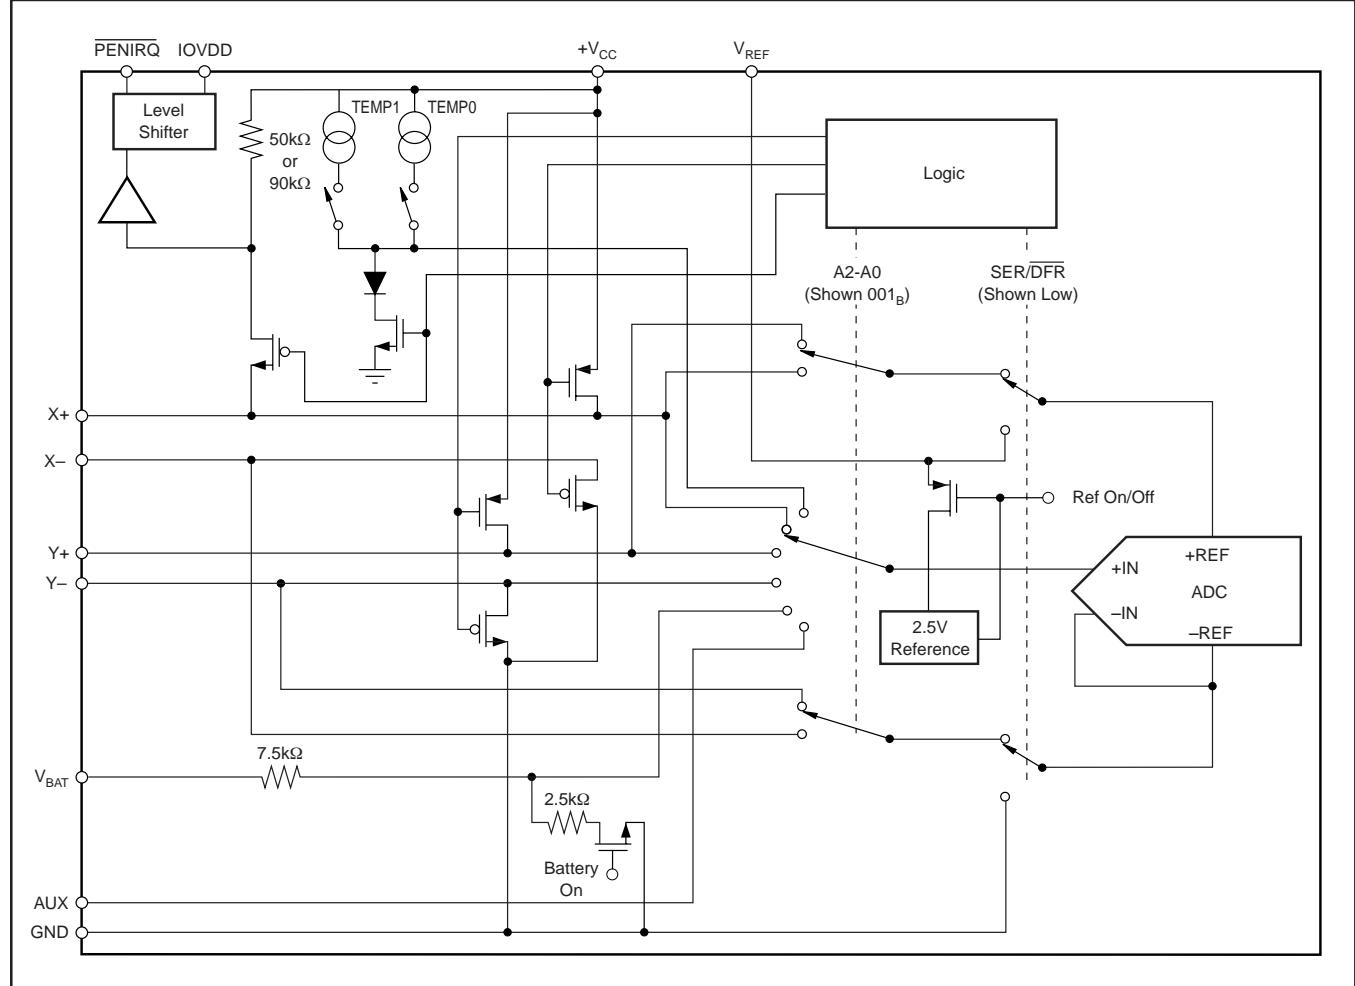

FIGURE 2. Simplified Diagram of Analog Input.
Figure 2 shows a block diagram of the input multiplexer on the TSC2046, the differential input of the ADC, and the differential reference of the converter. Table I and Table II show the relationship between the A2, A1, A0, and SER/DFR control bits and the configuration of the TSC2046. The control bits are provided serially via the DIN pin—see the Digital Interface section of this data sheet for more details.
When the converter enters the hold mode, the voltage difference between the +IN and -IN inputs (as shown in Figure 2) is captured on the internal capacitor array. The input current into the analog inputs depends on the conversion rate of the device. During the sample period, the source must charge the internal sampling capacitor (typically 25pF). After the capacitor has been fully charged, there is no further input current. The rate of charge transfer from the analog source to the converter is a function of conversion rate.
The voltage difference between +REF and -REF (see Figure 2) sets the analog input range. The TSC2046 operates with a reference in the range of 1V to +VCC. There are several critical items concerning the reference input and its wide voltage range. As the reference voltage is reduced, the analog voltage weight of each digital output code is also reduced. This is often referred to as the LSB (least significant bit) size and is equal to the reference voltage divided by 4096 in 12-bit mode. Any offset or gain error inherent in the ADC appears to increase, in terms of LSB size, as the reference voltage is reduced. For example, if the offset of a given converter is 2LSBs with a 2.5V reference, it is typically 5LSBs with a 1V reference. In each case, the actual offset of the device is the same, 1.22mV. With a lower reference voltage, more care must be taken to provide a clean layout including adequate bypassing, a clean (low-noise, low-ripple) power supply, a low-noise reference (if an external reference is used), and a low-noise input signal.
**Addressing**—The next three bits (A2, A1, and A0) select the active input channel(s) of the input multiplexer (see Tables I, II, and Figure 2), touch screen drivers, and the reference inputs.
**SER/DFR**—The SER/DFR bit controls the reference mode, either single-ended (high) or differential (low). The differential mode is also referred to as the ratiometric conversion mode and is preferred for X-Position, Y-Position, and Pressure-Touch measurements for optimum performance. The reference is derived from the voltage at the switch drivers, which is almost the same as the voltage to the touch screen. In this case, a reference voltage is not needed as the reference voltage to the ADC is the voltage across the touch screen. In the single-ended mode, the converter reference voltage is always the difference between the  $V_{REF}$  and GND pins (see Tables I and II, and Figures 2 through 5 for further information).